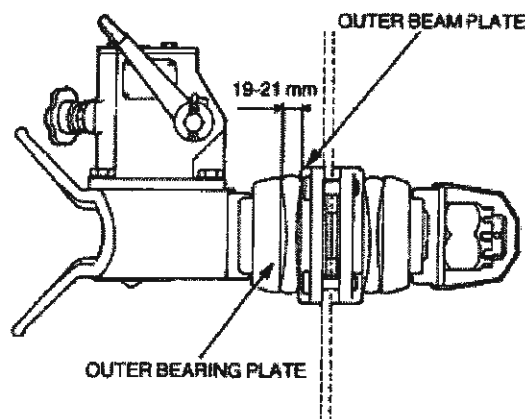

Figure 49 Tow Coupling - Adjustment
- g. Tighten the castellated nut until a measurement of 19-21 mm (0.75-0.84 in.) is reached between the edges of the outer bearing plate and the outer beam plate (Figure 49).